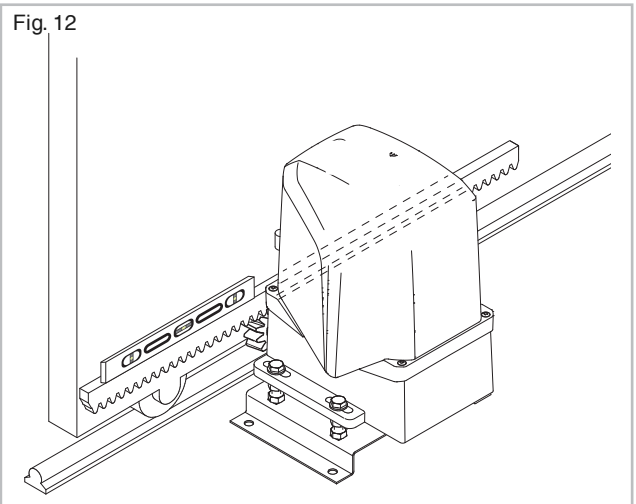

Fig. 12
- Weld the threaded stand-off to the gate (Fig. 12)